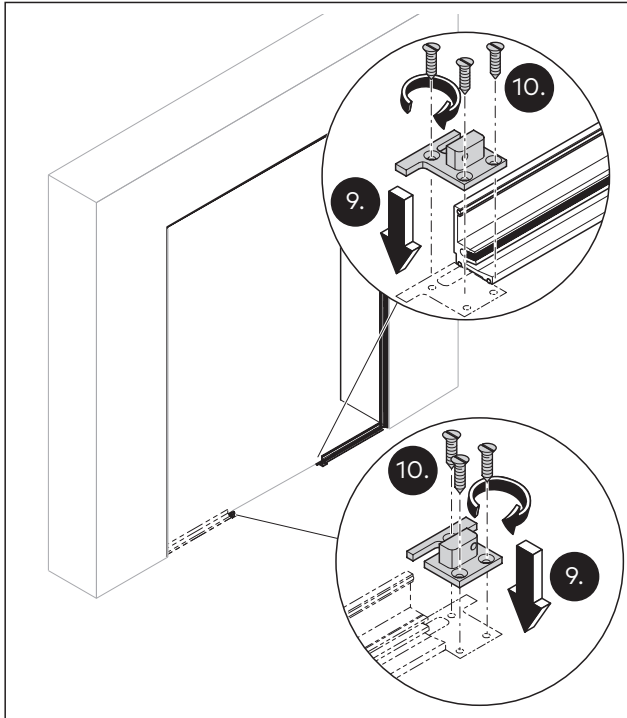

Fig. 19 Example of attaching the door frame positioner to a mounting profile from the viewpoint of the hinge side
9. Align the door frame positioners (Fig. 19).